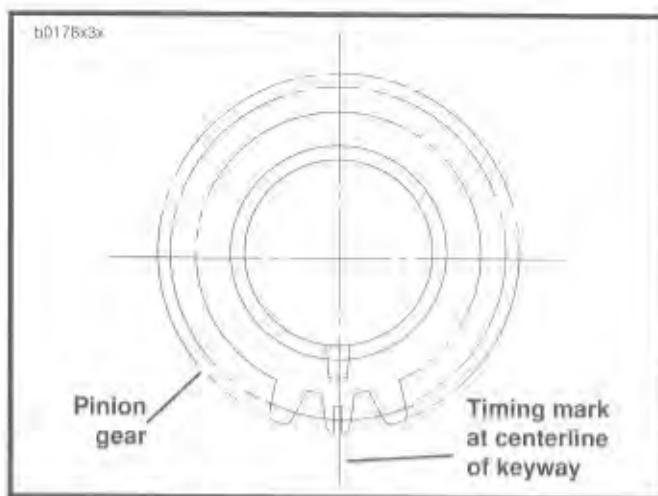
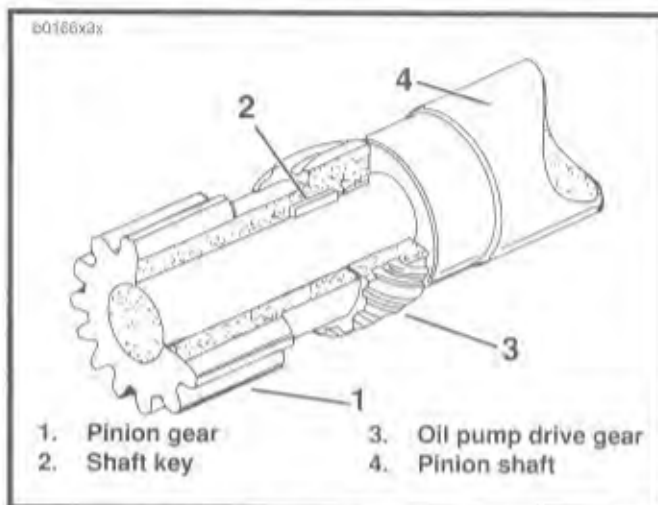

Figure 3-69. Pinion Gear Timing Mark and Keyway
Figure 3-70. Oil Pump Drive Gear and Pinion Gear Installed on Pinion Shaft
1. See Figure 3-59. Install oil pump drive gear (12) and pinion gear (5) to pinion shaft. Note that timing mark on pinion gear tooth is aligned with keyway in I.D. of pinion gear, as shown in Figure 3-69. See Figure 3-70. The timing mark will allow you to easily position pinion gear (1) over shaft key (2) and against oil pump drive gear (3) on pinion shaft (4).